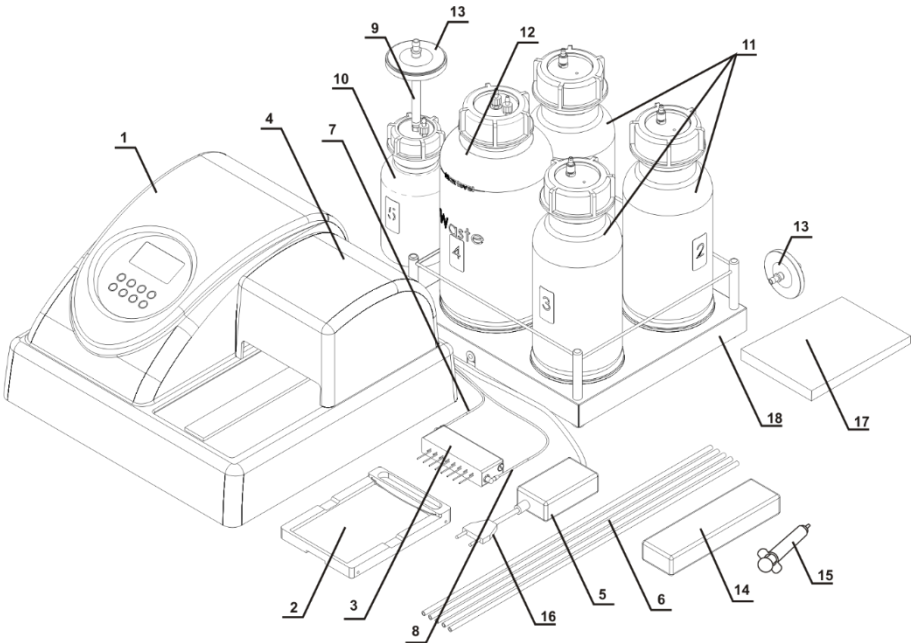
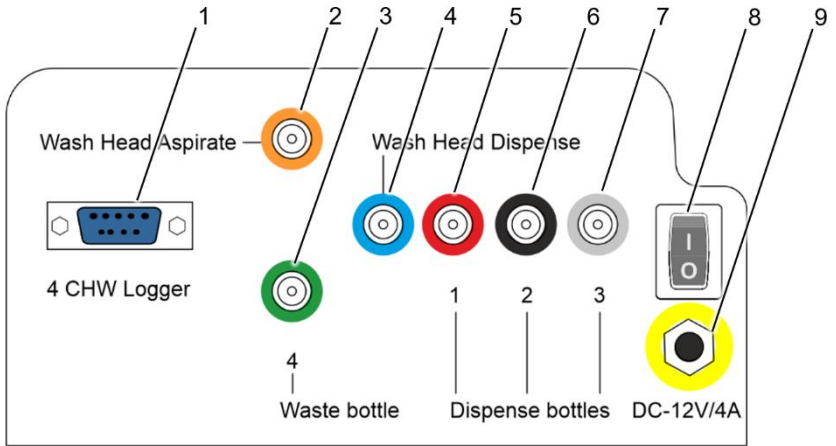
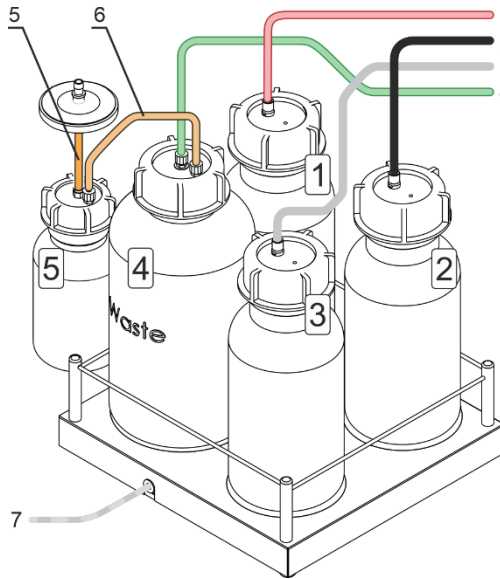

Figure 2. Complete set
Figure 4. Rear panel
Figure 5. Bottles and tubing
4.3.3 Unpack the plate platform (fig. 2/2).
Note. Each tube (fig. 2/6–2/8) and manifold (fig. 4/2–4/7) are colour-coded. Ensure that the tubes are connected securely.
4 CHW Logger adapter cable (fig. 5/7, if in use)	4 CHW Logger connector on the rear panel (fig. 4/1)
Caution! Before connecting the unit to the mains outlet, check that the power switch (fig. 4/9) is in position **O** (off).
- Connect the external power supply to the power socket (fig. 4/8) on the rear panel of the unit.
- Connect the power cord to the external power supply (fig. 2/16)
- Switch on the unit (position **I**) using the power switch (fig. 4/8) on the rear panel.